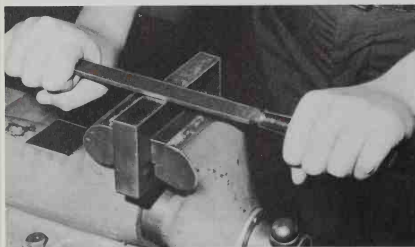

Fig. 4-37. Draw filing.
2. Holding the file steady, apply sufficient pressure to get a cutting action, and draw file toward you, Fig. 4-37. At the end of each stroke lift the file and return to the starting point. Use a new section of the file for each stroke. After one side of the file has been used up turn it over and use the other side. After both sides have been used, clean the file before continuing. This is important. A chip between the teeth will scratch the filed surface.